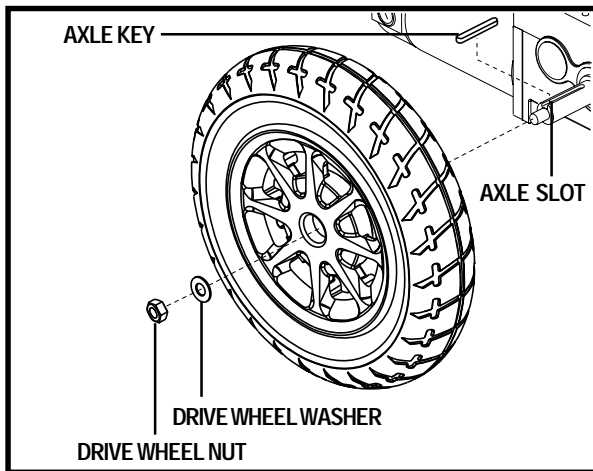

Figure 25. Drive Wheel
4. Remove the drive wheel nut and washer from the axle. See figure 25.